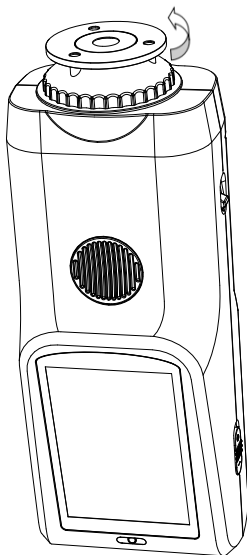

Figure 50 Measurement caliber disassembly
Step 1: As shown in Figure 50, counterclockwise rotates the measurement aperture, and take off it, then install the new aperture clockwise. When you hear "DA", it means that the measuring aperture and the integrating sphere button position are well matched, then the measuring aperture is installed well.